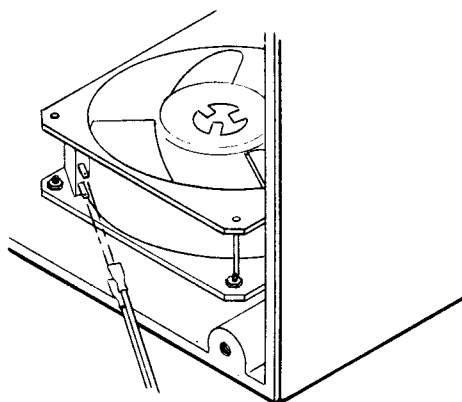

Figure 7-18
- 2) Disconnect the two wires from the fan by grasping the wire terminals and pulling them off as shown in Figure 7-18.